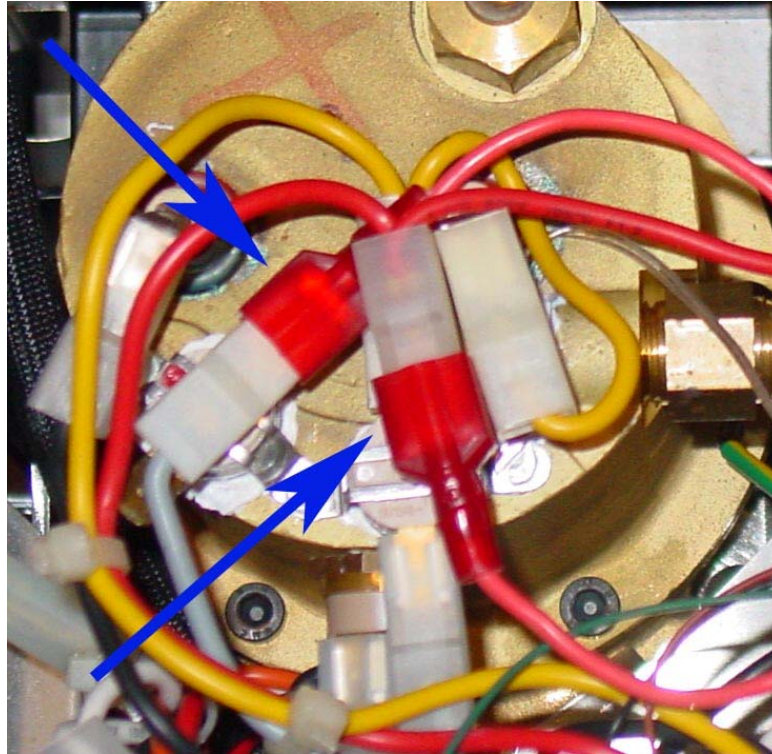

Figure 12a. Connecting SSR output cable to heater.
- 1) There are two thermostats on top of the boiler. The one on left with a red dot on top is the brewing water temperature control thermostat (marked with green arrow). The one on the right is for controlling the steaming temperature (marked with blue arrow). You need to remove the cable connectors on both side of brew water temperature thermostat (connectors with red and gray cable). They need to be connected to the output cables of SSR (the two thick red wires). The blue arrows in Fig 12a show what it should look like at this step.